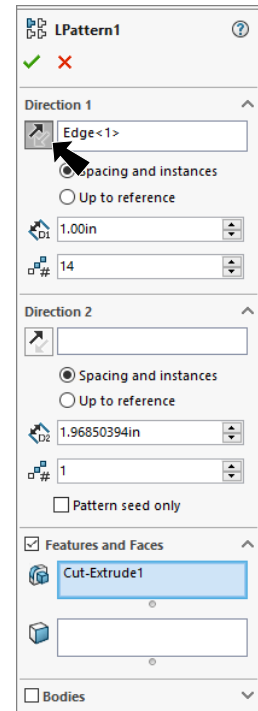

Fig. 27
Step 2. In the Linear Sketch Property Manager set: under Direction 1, **Fig. 27**